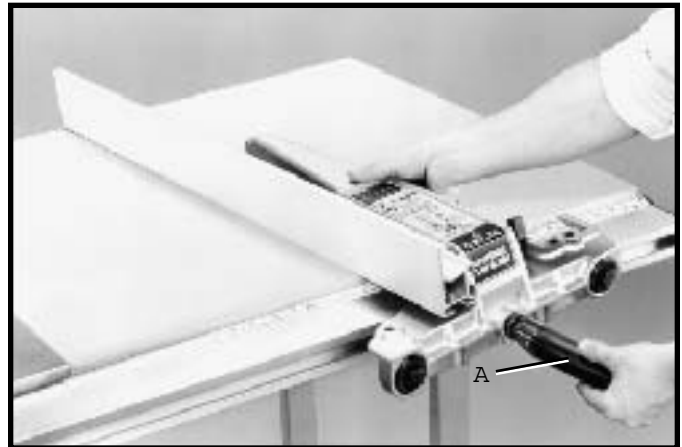

Fig. 96
6 To remove the fence and fence body assembly (F) Fig. 96, from the guide rail, lift up on fence clamping lever (A) and turn lever (A) to the left indent position. The fence assembly (F) can then be pulled straight off the guide rail and removed, as shown in Fig. 96.